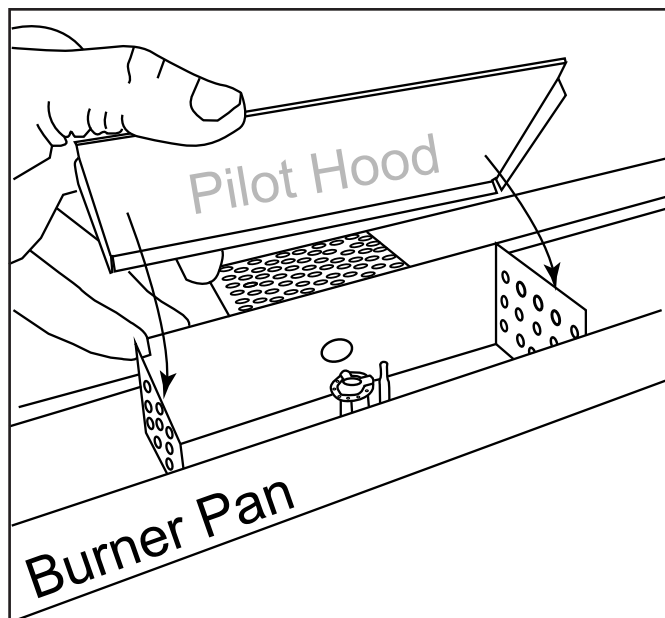
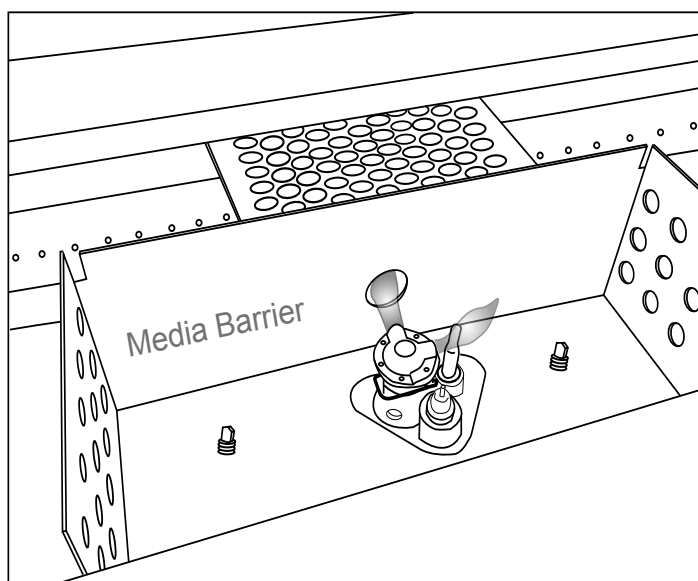
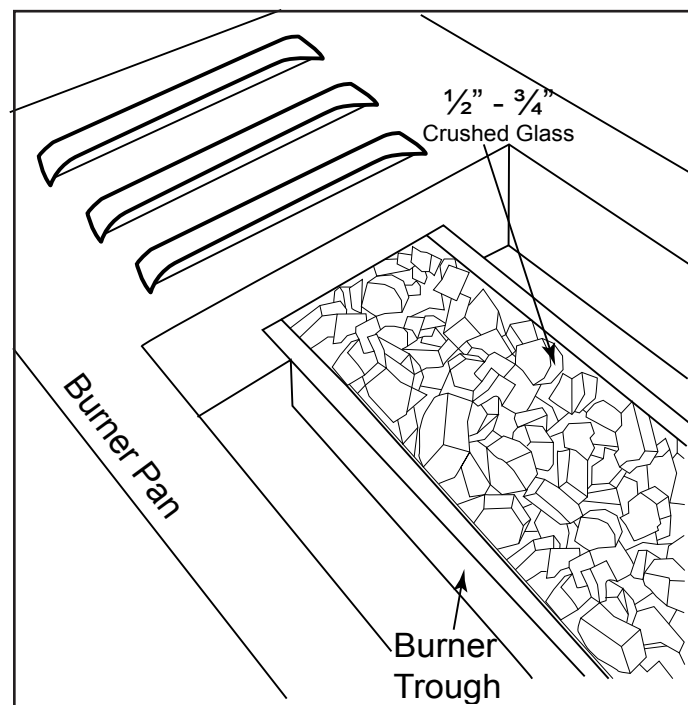
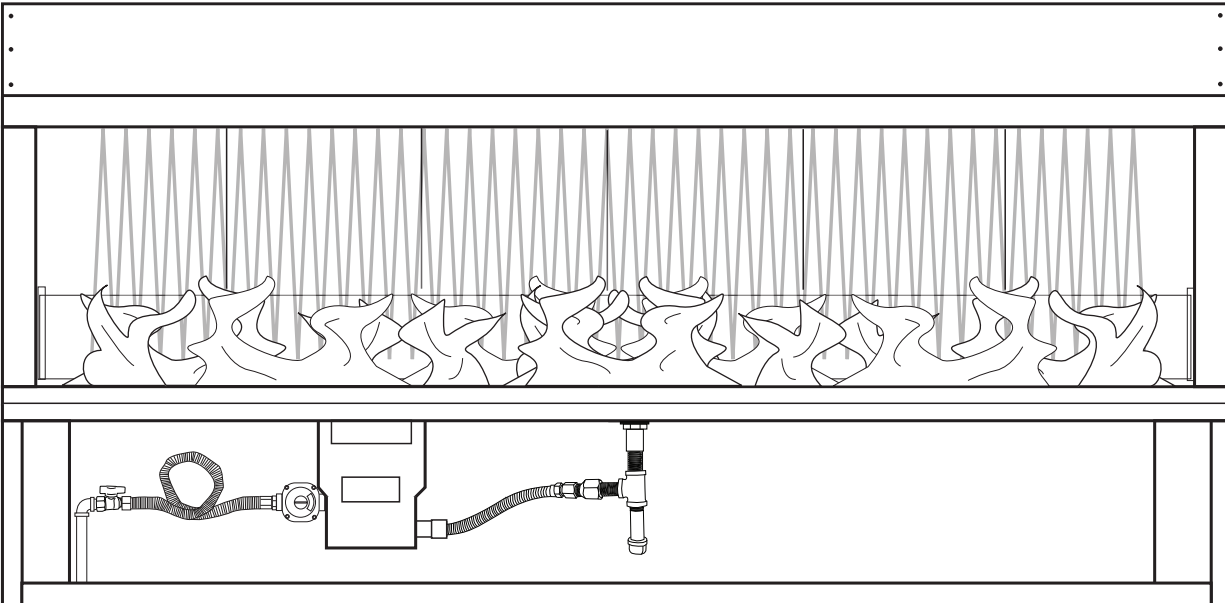

Figure 32 Pilot hood installing over top of pilot box.
Figure 34 Proper pilot flame through ignition hole.
Figure 35 Installing media into the fireplace.
Figure 41 Proper flame height.
Remove the plastic film from the pilot hood and place hood on top of the pilot box as shown in Figure 32.
Step 22: Place pilot hood on top of the pilot box and ensure it sits flat, providing ventilation for the pilot at the front edge of the burner pan. See Figures 32 and 33.
Step 24: Open the media box and install the glass media as shown in Figures 34 - 36. Place media fireglass into the trough area first as shown in Figure 35. Use the remaining media to fill the burner pan equally on both sides. Install only one layer over top of the ignition screen (Figure 32), just enough to camouflage it.
Proper flame height (*Figure 41*) should be at the top edge of glass windshield (peaking above at times) while on HI setting. Note: Glass windshield is 7-inches tall. The LO setting will be at least half of the height of HI or maybe lower. There can be a variance in flame height between Natural Gas and Liquid Propane (LP) Gas models.
Inspect Burner Flame and Pilot Flame Appearance Periodically do a visual check of the burner flame and the pilot flame. Ensure that the burner flame appearance resembles the flame shown in *Figure 41, Page 27*. Refer to *Figure 34 on Page 24* for more information about the pilot flame appearance. Contact a qualified service technician at once if any abnormal condition is observed.